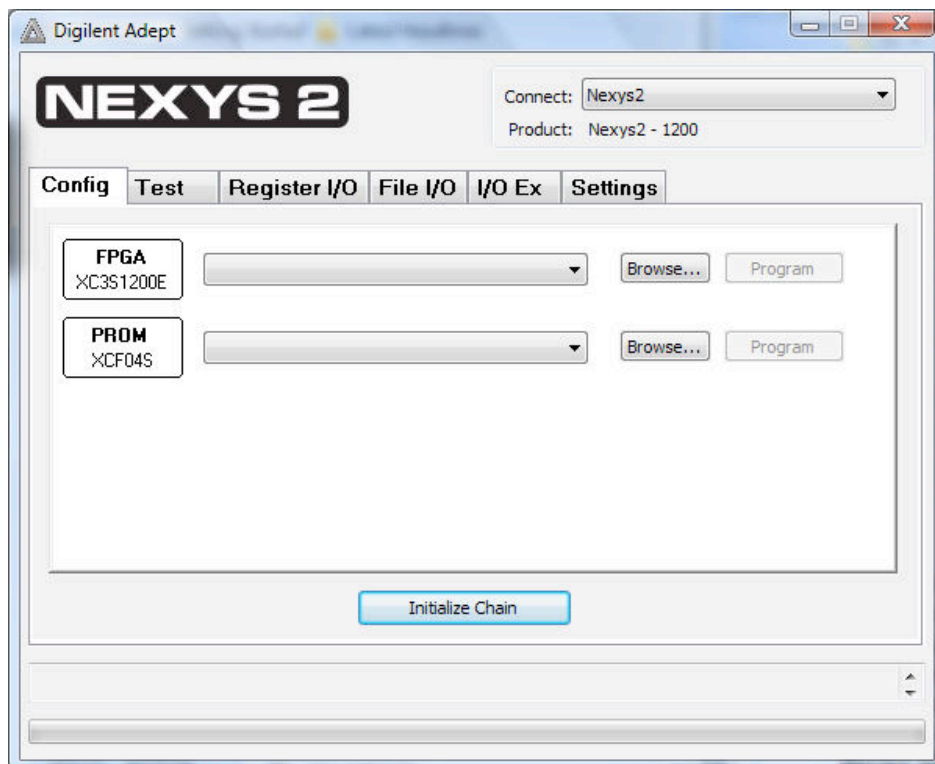

Figure 18. Adept software with Nexys2 board connected
- In the Adept software window, change **Connect** to **Nexys2**. Then the connection will be automatically established and initialized. This is shown in Figure 18.